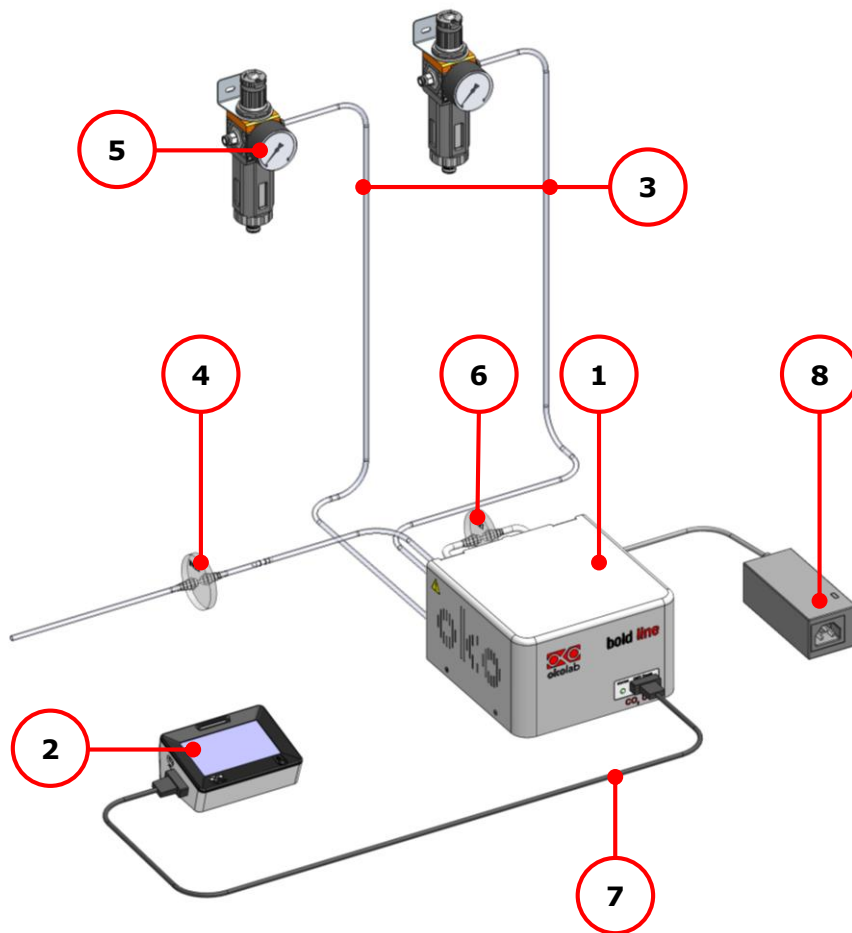
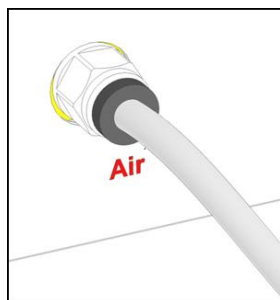
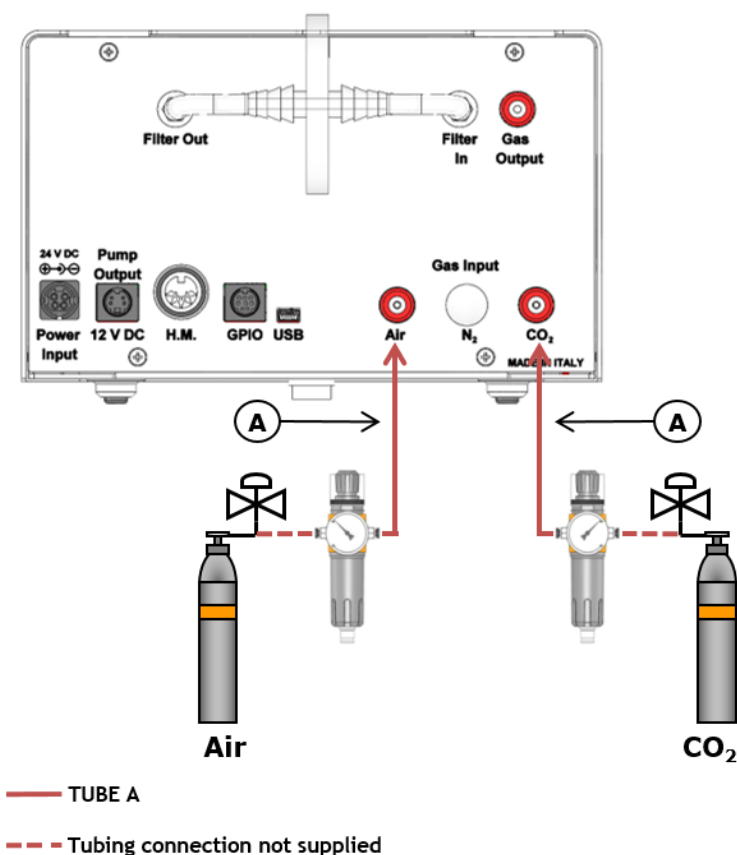

Figure 1. CO2 UNIT BL and OKO TOUCH - components
Figure 10. Avoid gas leak: strongly push the tube into the Push-in to-Fit connector
Figure 11. CO₂ and Air Tanks connections to the back panel of the CO₂ Controller
3. Tubing for CO₂ and Air lines are rigid tubing, 6 mm O.D. (TUBE A in par. 4), and they connect to the CO₂-UNIT-BL through Push-in connectors (see Figure 10 and pointer 3 in Figure 1). Make sure to push tubes securely all the way into connectors avoiding any gas leak. To remove tubing from push-in connectors push
4. Figure 11 shows the connections between the CO₂ and Air tanks and the respective connectors on the rear panel of the CO₂-UNIT-BL (see pointer 3 in Figure 1).